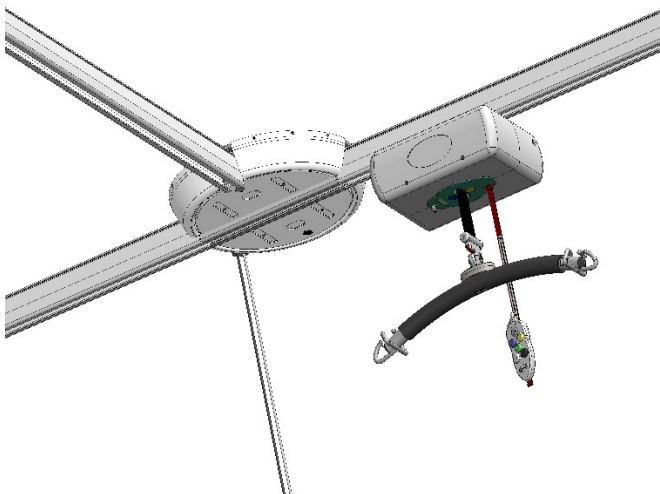

Figure 36
1. Traverse the hoist into the turntable. (Figure 36)